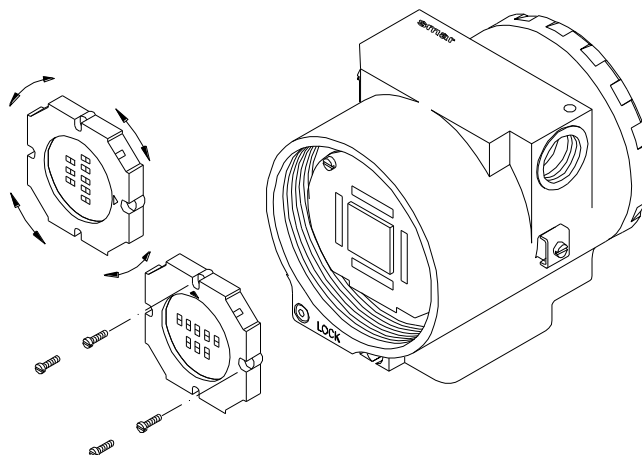

Figure 4.2 – Four Possible Positions of the Display
Plug sensor connector and power supply connector to main board. If there is a display, attach it to the main board by means of 4 screws (3). The display can be installed in any of the 4 possible positions (See Figure 4.2).